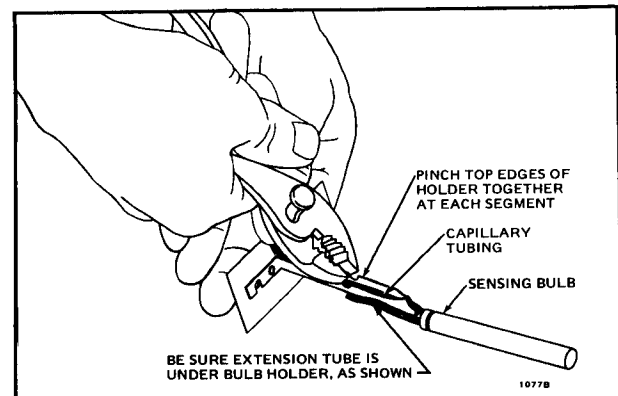

FIG. 5—INSERTING THE CAPILLARY IN THE CAPILLARY HOLDER.
4. Place the capillary tubing in the bulb holder channel, and pinch the top edges of the holder together at each segment (Fig. 5).